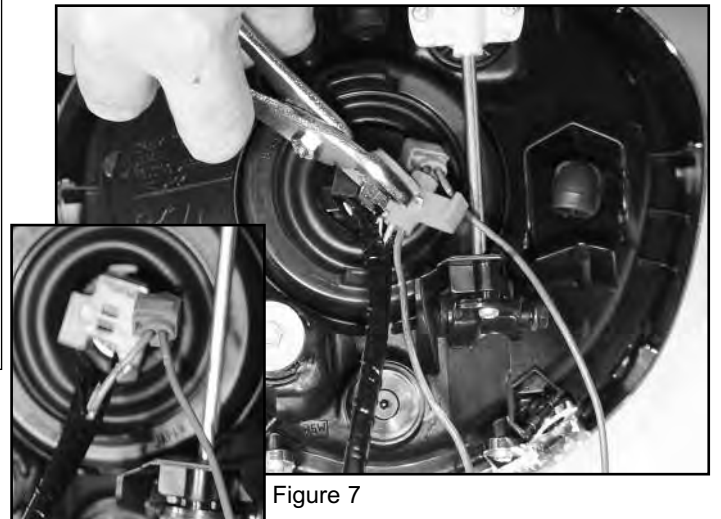

Figure 7
4. Use the U Connectors from Bag #868 to attach wires as recommended in the Wiring Chart below. Do one at a time and check for correct operation. **(Connectors and Pliers) Figure 7**